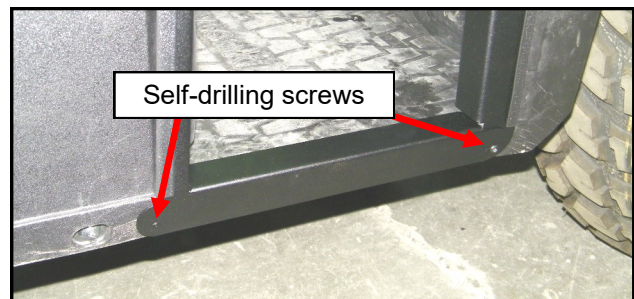

Fig. 14.2 (Fuel filler cover)
**14.2** Per figure 14.2, on the passenger's side, place the front flange of the fuel filler cover against the lower flange of the A-pillar and install a self-drilling screw through the slots at the front of the fuel filler cover and lower flange of the A-pillar. Install a second self-drilling screw through the hole at the rear of the lower flange of the fuel filler cover. On the driver's side, install a self-drilling screw through the lower flange of the A-pillar.